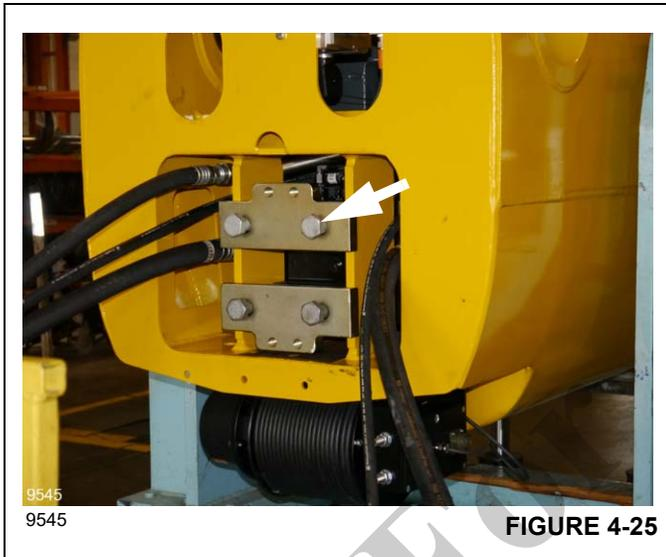

FIGURE 4-25
1. Connect a strap to Tele 1, then using an overhead lifting device or another crane, lift Tele 1 so the strips (66), holders (33) and sliders (30, 31, 32) can be installed.
6. Secure the strips and wear pads with the plates (36).
7. Climb inside the Base Section and remove the tie straps restraining the cylinder hoses. Route the hoses out the rear of the Base Section as shown in (Figure 4-25).
8. Secure the tele cylinder with the four cylinder retaining bolts (Figure 4-25) and two retaining plates.